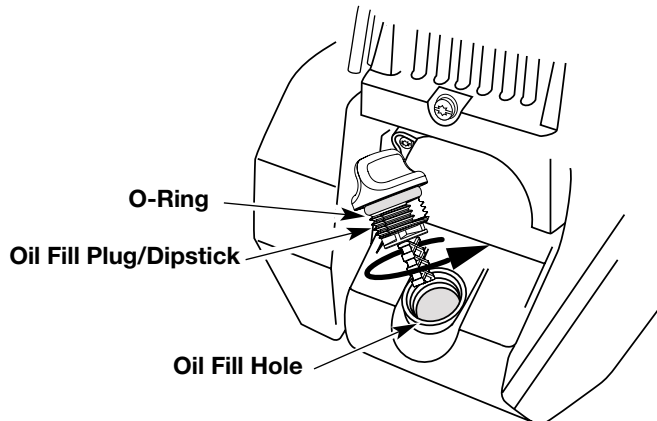

Fig. 29
6. If the level is low, add a small amount of oil to the oil fill hole and recheck (Fig. 29). Repeat until the oil level reaches the top of the dipstick.
**NOTE:** Make sure the O-ring is in place on the oil fill plug/dipstick when checking and changing the oil (Fig. 29).